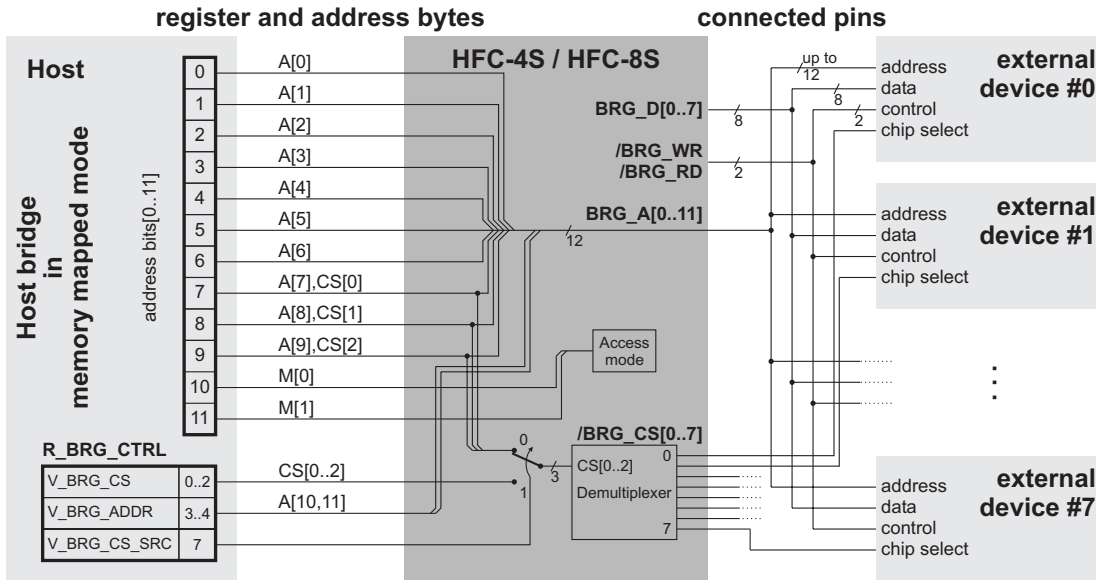

Figure 11.3: Host bridge structure in memory mapped mode
In memory mapped mode the control register R_BRG_CTRL can be used to perform read and write accesses with a large address space. External devices with up to 10 address lines do not require this register. If R_BRG_CTRL is not used, the exact number of available address lines depends on the number of external devices. An overview of this functionality is given in Figure 11.3.
1. If the external devices have not more than 7 address lines, the register R_BRG_CTRL is not necessary for bridge accesses. The bridge operation can be performed with 12 address bits as shown in Figure 11.3. Up to 8 external devices can be connected to the HFC-4S/8S.